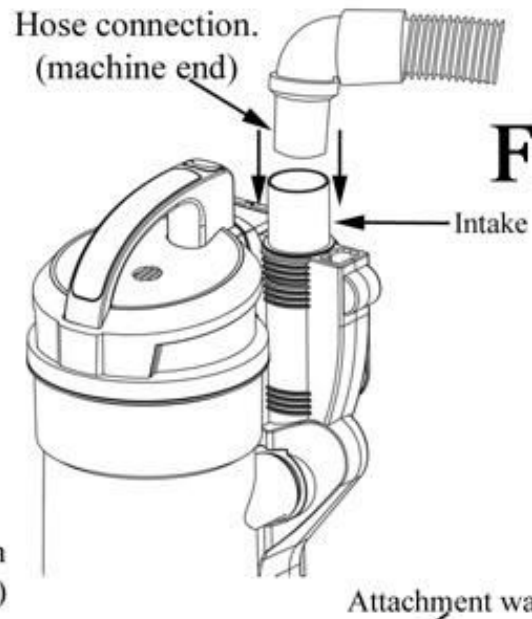

Fig 1
1. To connect the flexible hose to the unit, slide the hose connector over the air inlet (Fig 1).